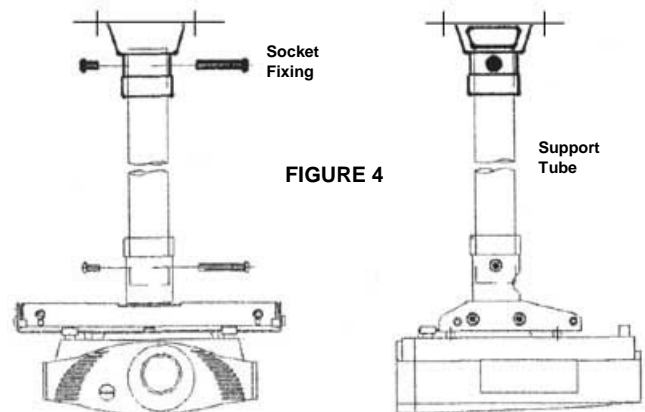

FIGURE 4
5. Refer to fig 4. Assemble the support tube, sliding the support tube into the socket. Fit the socket fixing through both holes in the socket.
6. Refer to fig 4. Fit another m8 screw to the assembled socket fixing, item 3. Tighten both m8 screws to the socket fixing using the two security allen keys supplied with the kit.